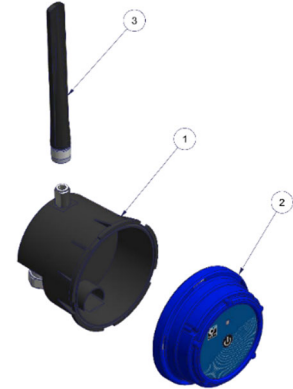

Figure 1 CV-Log-35 parts
- c. **(1)** or **(A)**: Circled numbers and letters in the text refer to the parts described in Figure 1 and 2 respectively (example: Figure 1 - page 5)